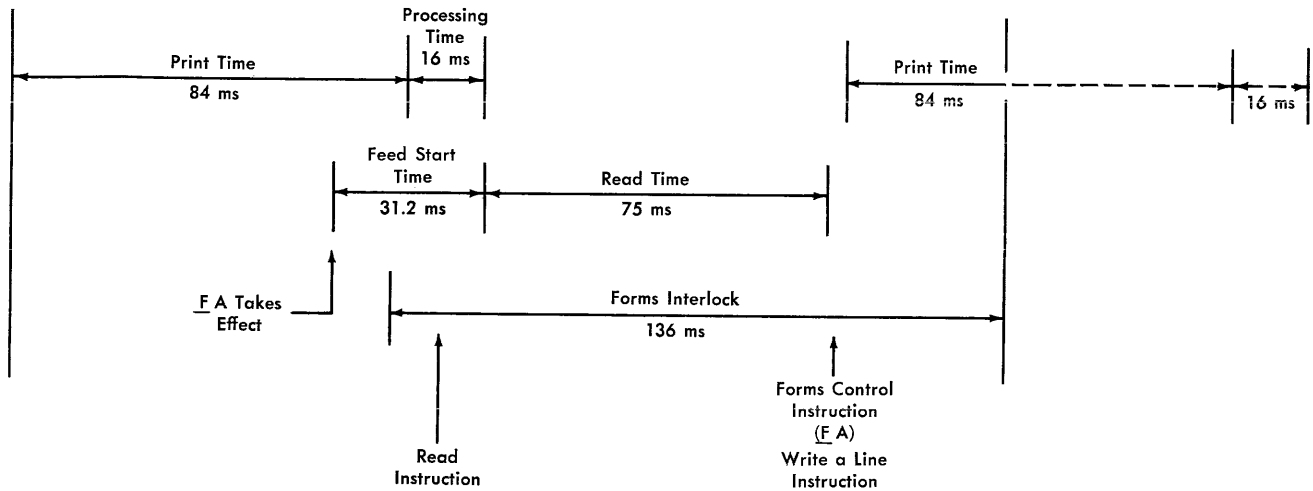

Figure 18. Print and Read Timing Chart, IBM 1404
2. the read instruction must follow F A and 2 by no less than 84 ms, and no more than 100 ms (Figure 18).